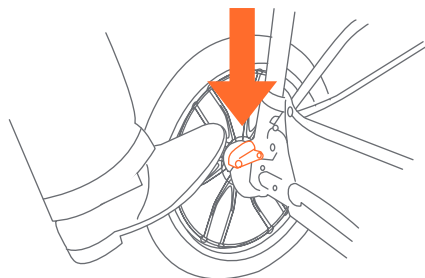

Fig. 13
- 13) • To engage brakes, apply downward pressure to the brake levers located on the rear axle. The stroller may require forward or rearward movement in order to engage the brake (Fig. 13).